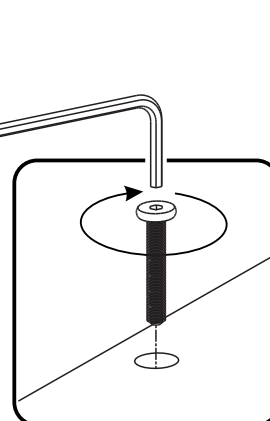

Figure 4
Attach Base (J) to unit with Head Cap Bolts (2) and Wood Screws (14). (See Figures 4 and 5)